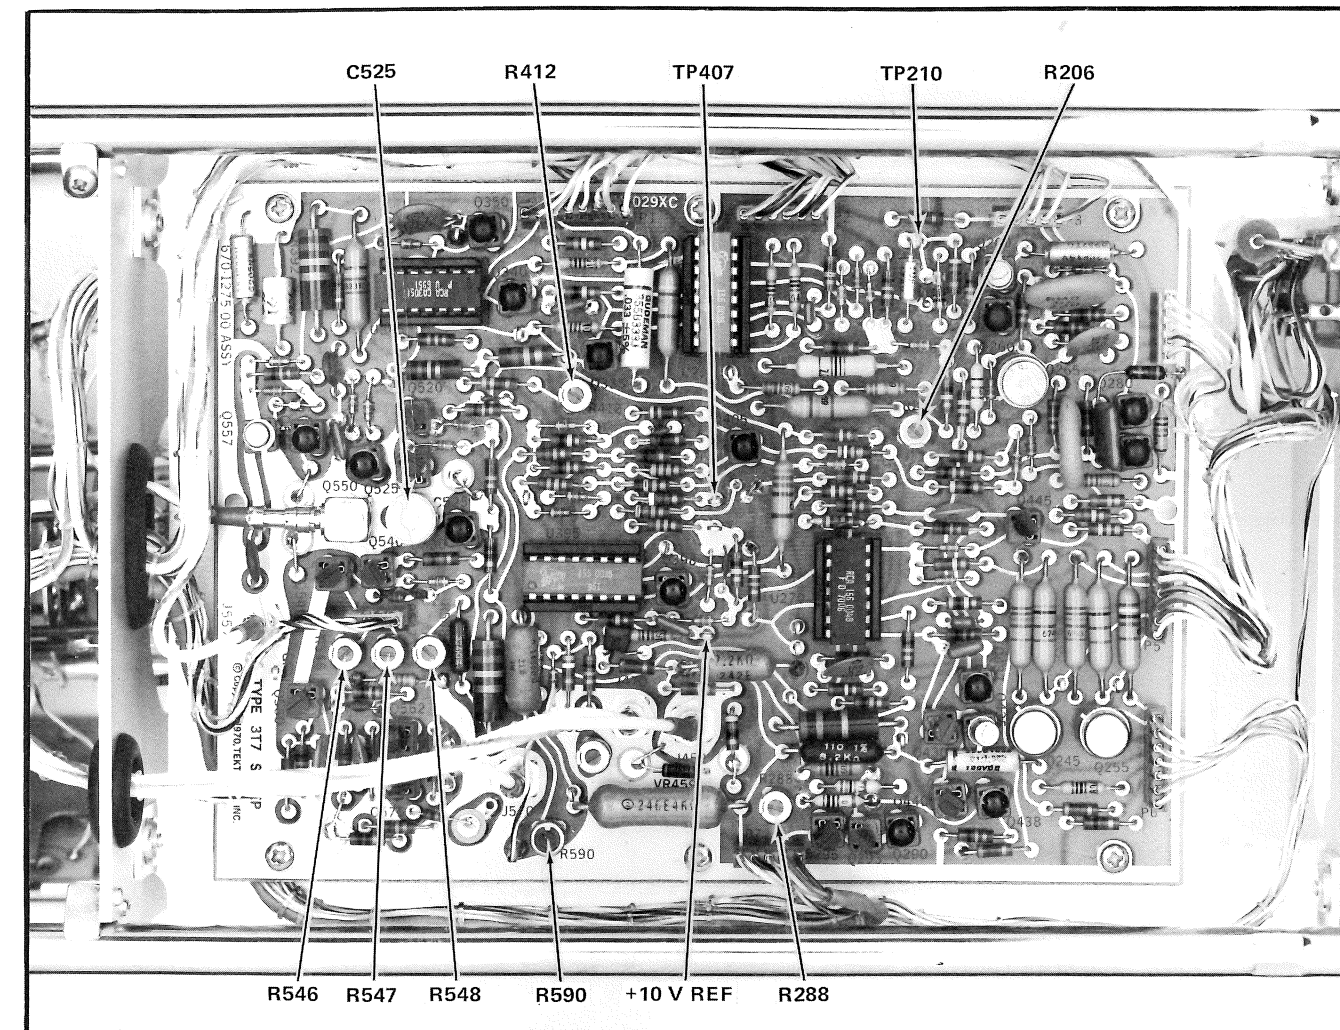
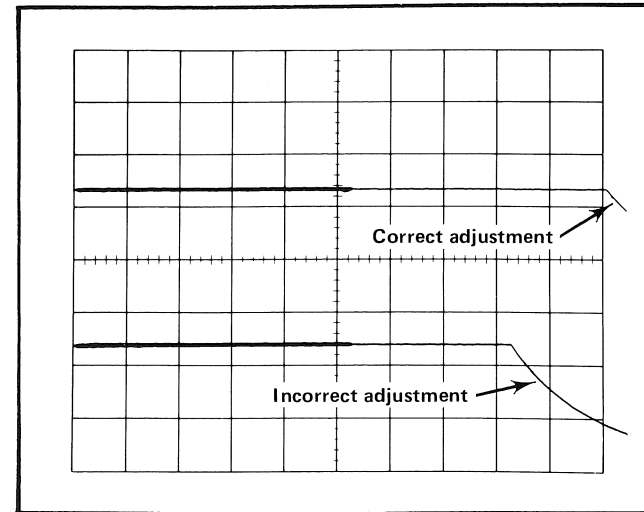
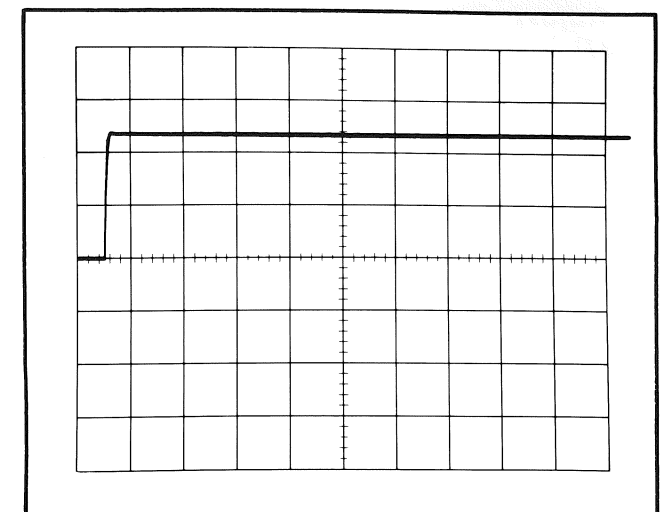

Fig. 6-1. 3T7 TDR Sweep calibration test points and controls locations.
Fig. 6-4. Waveform showing correct and incorrect R412 control adjustment (Step 3).
Fig. 6-8. Waveform showing correct adjustments of R546, R547 and R548 (Step 6) and R590 (Step 7).
c. Connect a P6012 (10X) Probe from the test oscilloscope A Input to the 3T7 TDR Sweep test point TP210. TP210 is located between Plug 2 (red) and Plug 3 (orange) at the upper right edge of the circuit board. See Fig. 6-1 for TP210 location.
e. Adjust R206 for a scan ramp of 1 s or more (1 div or more) as measured by the test oscilloscope. See Fig. 6-1 for R206 location and Fig. 6-2 for the waveform.
b. Adjust R412 while the LOCATE button is fully depressed. R412 is correctly adjusted when the ramp at the right end of the trace is only slightly apparent outside the right edge of the graticule (see Fig. 6-4 for this waveform). The trace intensity must be sufficient to show the right end of the trace when the LOCATE button is pushed. See Fig. 6-1 for R412 location.
a. Connect a P6012 (10X) Probe BNC connector end to the 2901 Time Mark Generator Trigger Out connector and the probe tip to test point TP407. See Fig. 6-1 for TP407, R532 and C525 locations.
f. Adjust R288 to position the next 1 μs pulse at graticule line eight. See Fig. 6-1 for R288 location.
e. Adjust R546 to position the pulse step 0.5 div from the graticule left edge. See Fig. 6-1 for R546, R547 and R548 locations and Fig. 6-8 for correct pulse position.
g. Adjust R547 to position the pulse step 0.5 div from the graticule left edge (see Fig. 6-8).
e. Adjust R590 to position the bottom of the pulse at the vertical center of the TDR graticule (see Fig. 6-8). See Fig. 6-1 for R590 location.